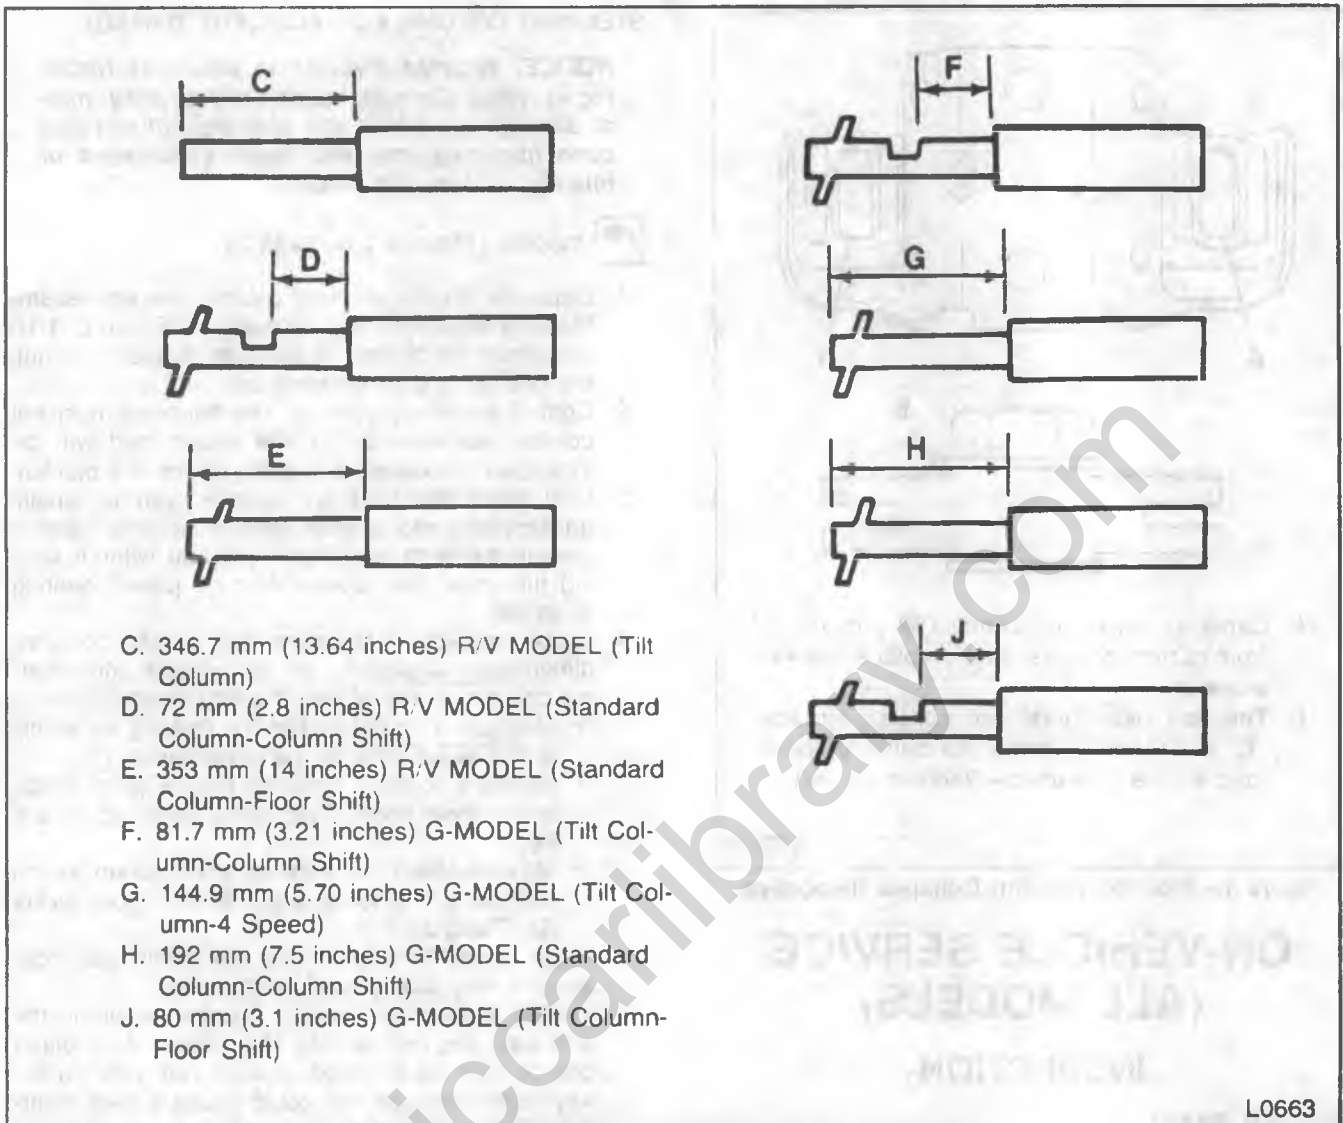

Figure 2—Steering Column Collapse Inspection
4. Jacket collapse. Measure the jacket collapse dimensions, depending on the vehicle and steering column, in any of the following ways (figure 2).
- Measure from the end of the bearing assembly to the lower edge of the upper jacket (C).